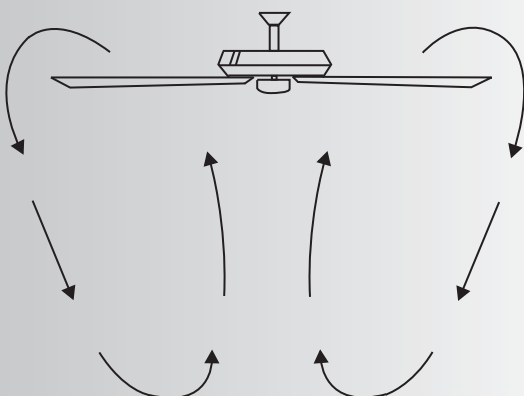

Fig. 25
**Cool Weather Operation:** Reverse (clockwise). An upward airflow moves warm air off the ceiling areas as shown in Fig. 25. This allows you to set your heating unit on a cooler setting without affecting your general comfort.